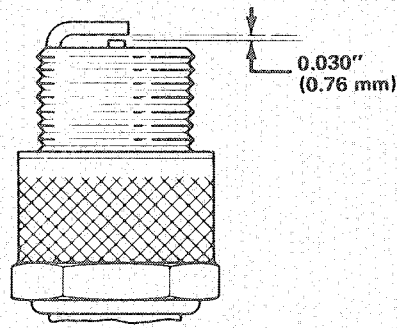

Figure 22
3. Set air gap between electrodes at 0.030 of an inch (0.76 mm) (Fig. 22). Install the correctly gapped spark plug with gasket and tighten plug to 15 ft-lb (20.4 N·m). If torque wrench is not used, tighten plug firmly.